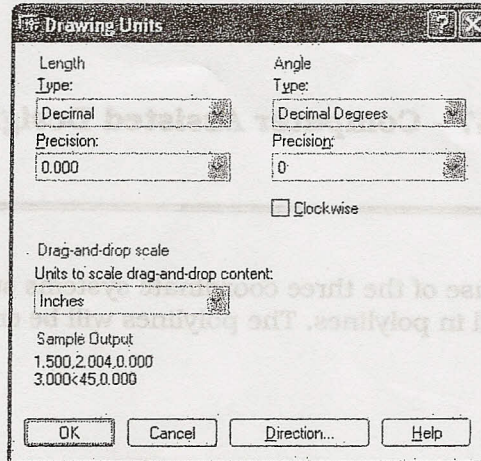

Figure 1 Drawing Units dialog box
1. Under Format>Units...: under Length, set Type = Decimal, set Precision = 0.000 (Figure 1).